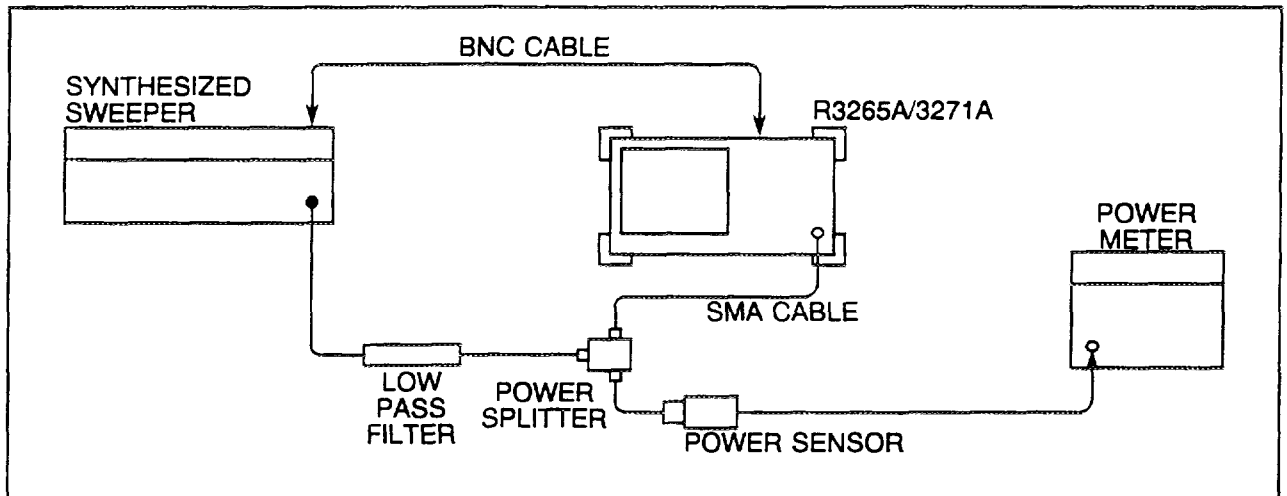

Figure 4-11 Second Harmonic Distortion Test Setup
(1) Zero and calibrate the power meter. Rotate the CAL FACTOR switch to the power sensor's 1.5 GHz calibration factor.
(2) Connect the equipment as shown in Figure 4-11.
(3) Press the INSTR PRESET key on the TR4515. Set the TR4515 controls as follows:
- (13) Connect the equipment as shown in Figure 4-11.
- (14) Rotate the CAL FACTOR switch to the power sensor's 1.9 GHz calibration factor.
- (15) Set the TR4515 key for a 0 dBm ± 0.1 dB reading on the power meter.
- (16) Set the R3265A/3271A center frequency to 1.9 GHz and span to 1 kHz.